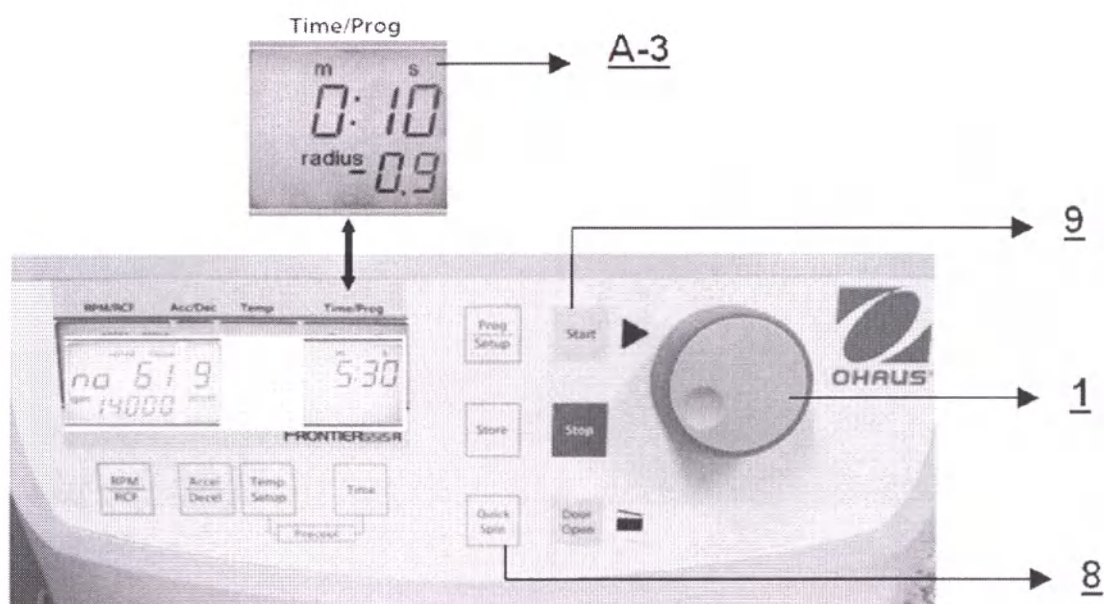

Fig. 26
The centrifuge can be started by pressing the key **Start** (9) or key **Quick Spin** (8) (see Fig. 26). The key **Start** (9) is used to start the centrifugation with the parameters manually preset or recalled from the memory.